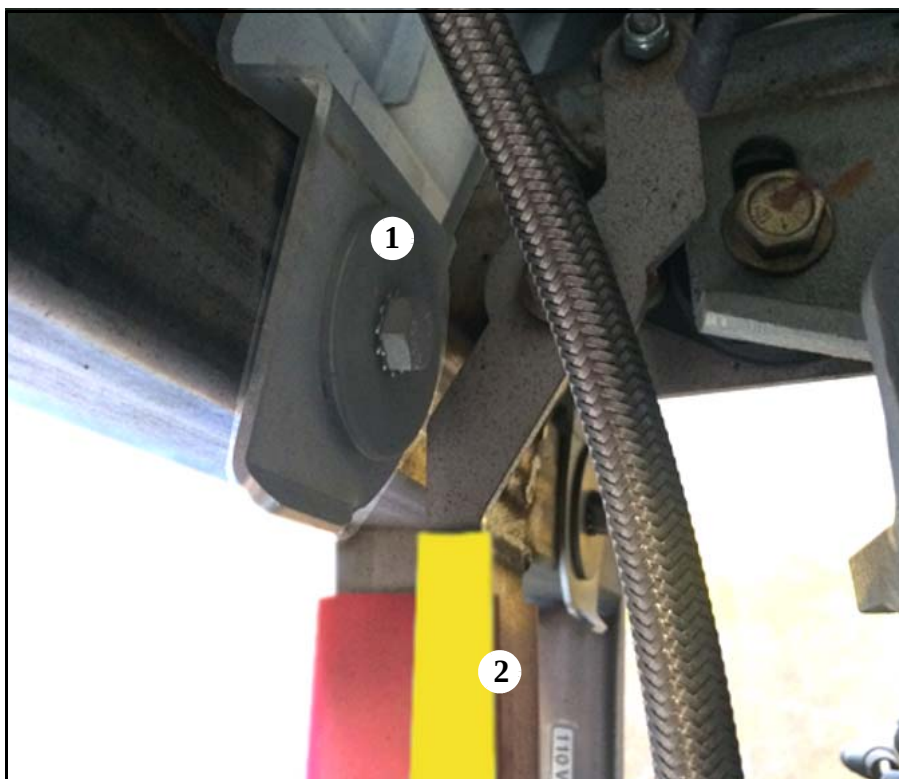

Figure 7. Line of sight view looking straight down positioned at the curbside, rear side service compartment.
16. Remove and retain the rear bumper mounting hardware (refer to Figures 7 and 8). Carefully remove the bumper and place aside to be re-installed at a later step in this procedure. Using a marker and tape, label the rear bumper mounting hardware for re-installation.
Item	Figure 7 Description
2	Four (4) bolts. Refer to item 1 / Figure 7.